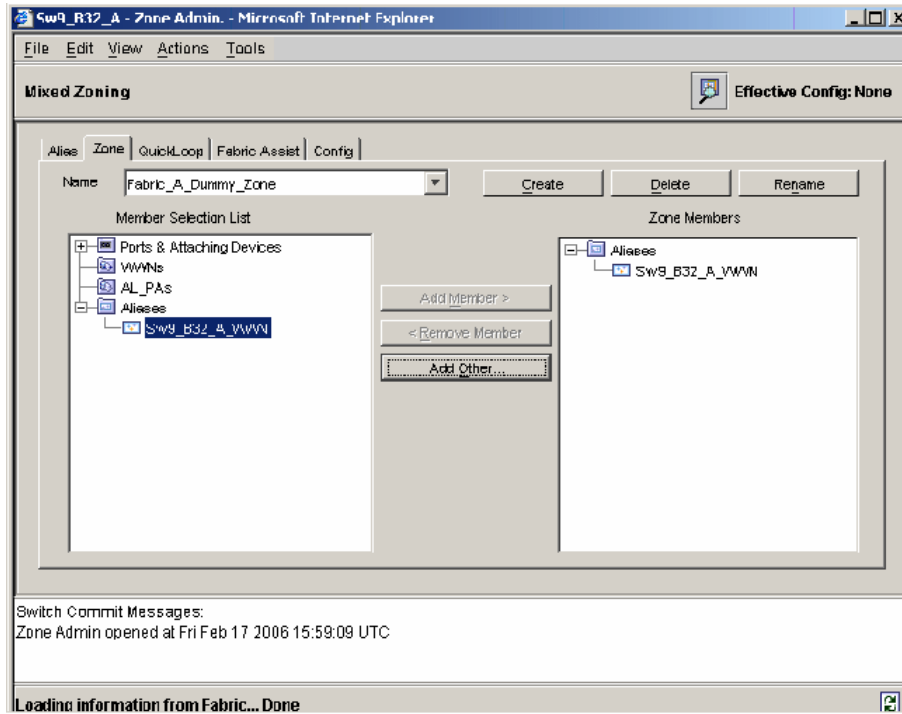

Figure 5-39 Mixed Zoning
- Expand the Aliases folder (Figure 5-39) in the left side of window. Find and highlight the alias with the switch WWN and click **Add Member**.